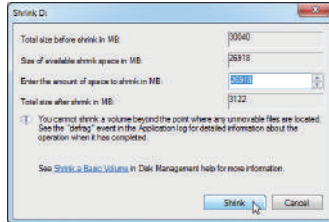

Figure 2
Step 4: When completed, click **Shrink**. (Figure 2)